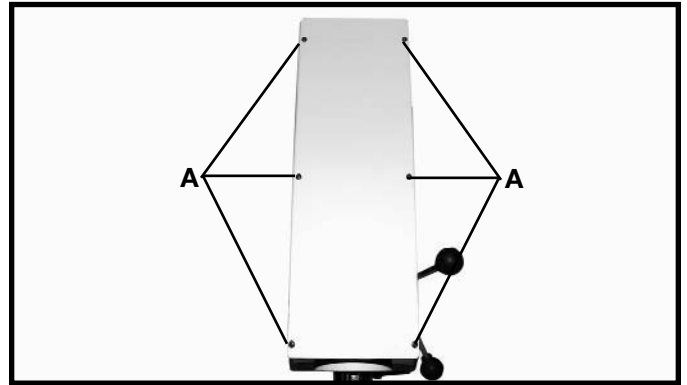

Fig. 30
2. Remove the six screws (A) Fig. 30 that hold the top cover in place, and remove the top cover.